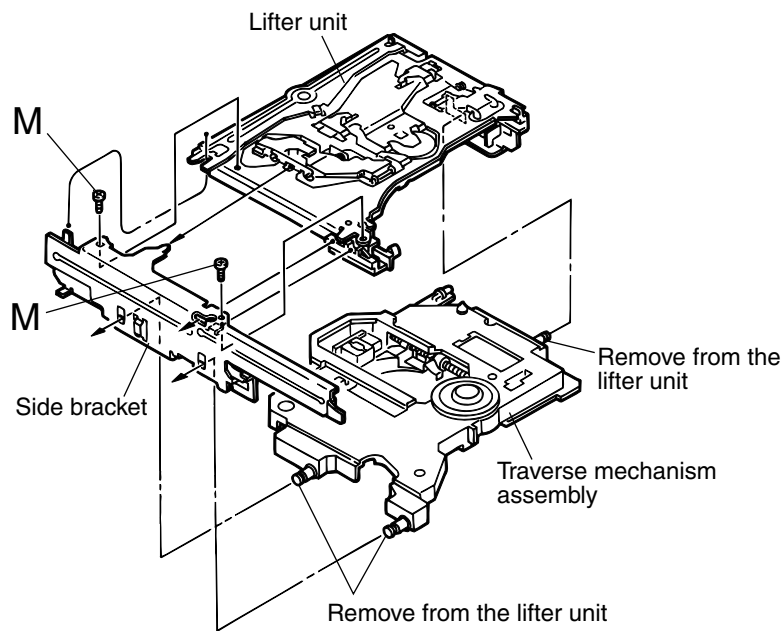

Fig. 22
■ Side bracket and traverse mechanism assembly (See Fig.22)